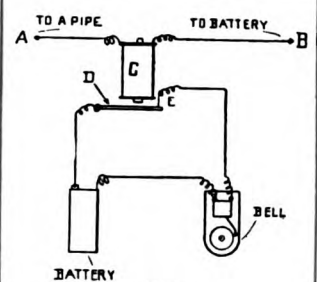

Fig. 9
L. J. Voorhees, Sayre, Pa., says it is uneconomical to divide the current in this way, and recommends putting in a switch as shown in Fig. 9. In this plan when there is a short circuit in the line A, B or main circuit for lights, it magnetizes the core of coil C, causing the steel spring D to come in contact with point E, causing a circuit through battery and bell without interfering with the main circuit in any way.
A better and more substantial way is to make a screw with a permanent swivel plate, as follows: Have the bolt forged for the purpose. (See Figs. 9 and 10.) Have the square head set about an inch below the point end, then turn down the point end (g) about half its diameter for a distance $\frac{1}{8}$ in. longer than the thickness of the swivel plate h. Plate h should be $\frac{1}{4}$ to $\frac{1}{2}$ in. thick and about 3 to 4 in. square with a hole bored in the center of the same size as pin g and slightly countersunk on one side to make swivel, taking the place of block B, Fig. 3, thus making a cheap and bandy jack.—Contributed by C. N. Leonard, 1319 Barth avenue, Indianapolis, Ind.